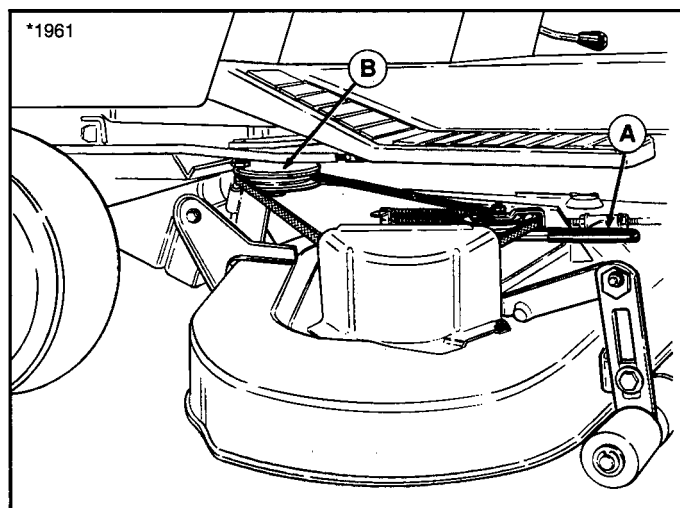

Figure 7. Installing Belt
5. See Figure 7. From left side of tractor, pull idler arm (A) towards you to relieve belt tension. Install belt onto the PTO pulley (B).
6. Turn wheels straight ahead. Pull back on spring-loaded idler arm (A, Figure 7) and lift mower hitch off of the tractor brackets.